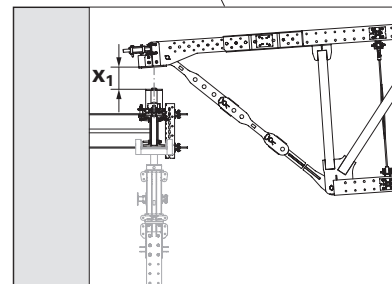
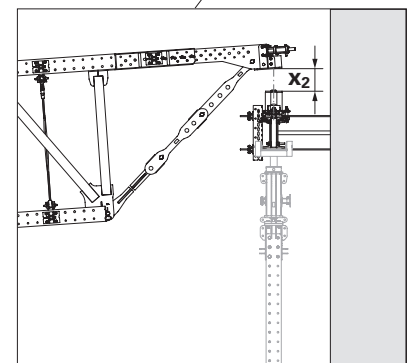

Fig. C1.01a
Fig. C1.01b
- If the two main beams are not at the same height, you must compensate for the difference in height when transporting by crane. The truss package must be set down on both main beams at the same time, dimension  $x_1$  corresponds to dimension  $x_2$ . (Fig. C1.01a + Fig. C1.01b)